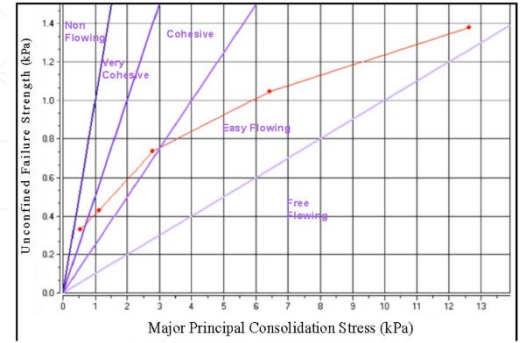

Figure 1: Baby Formula Flow Function
- Figure 1 presents the flowability of the baby formula under varying consolidating stresses. The formula exhibited easy flow but became cohesive and highly cohesive at stresses below 3 kPa.